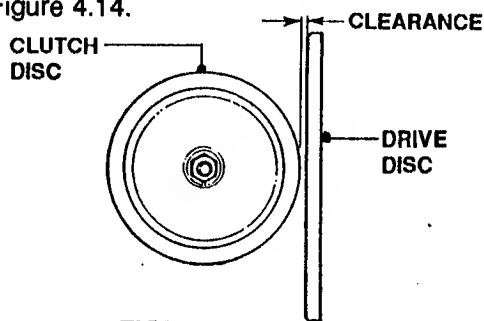

FIGURE 4.14
4. Visually inspect to make certain there is clearance between clutch disc and drive disc. See Figure 4.14.
8. Check for clearance between clutch disc and driven disc. If no clearance is visible, repeat steps 5 and 6 until clearance is visible. Refer to Figures 4.14 and 4.15.